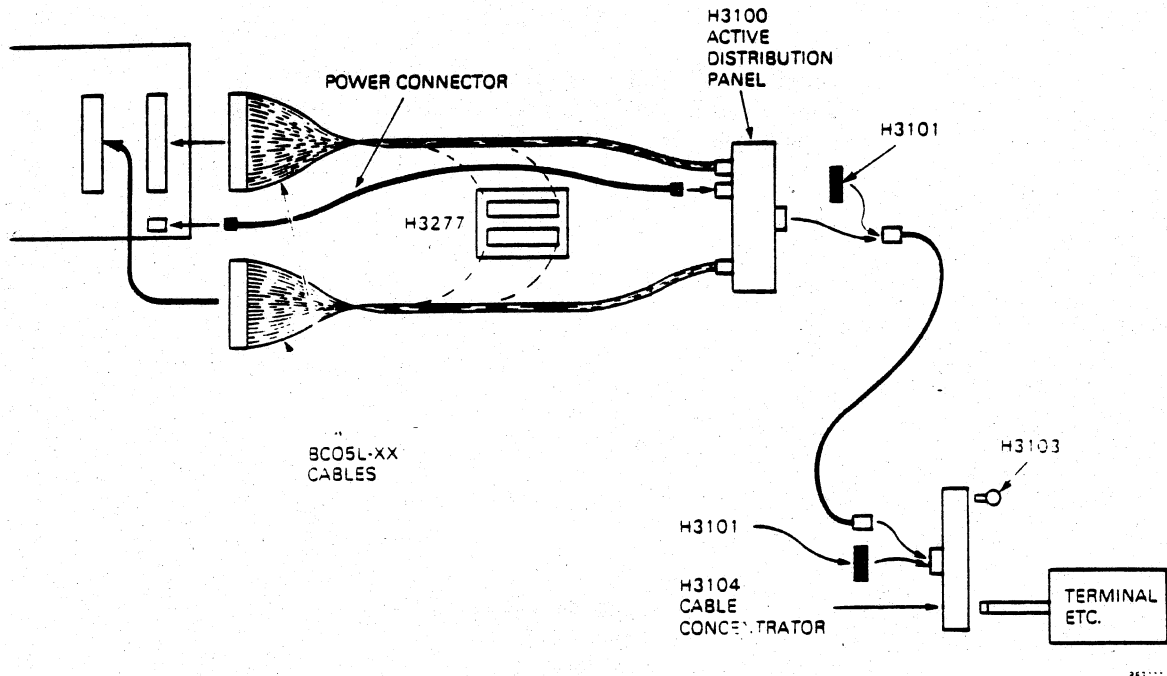
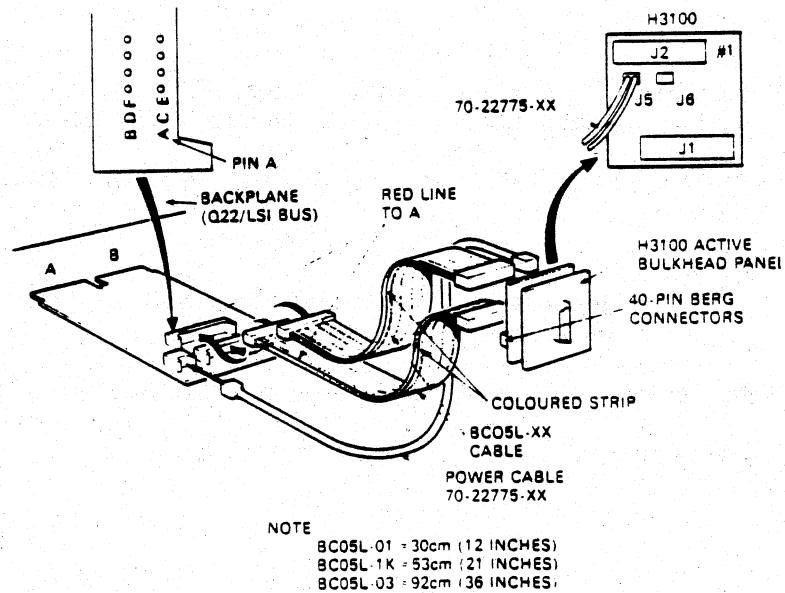

Figure 2-5 Installing the DHQ11 (EIA-232-D)
Figure 2-6 Installing the DHQ11 (DEC423)
1. Connect the BC05L cables to J1 and J2. Figure 2-5 for EIA-232-D installations and Figure 2-6 for DEC423 installations show how the parts of the option connect together.